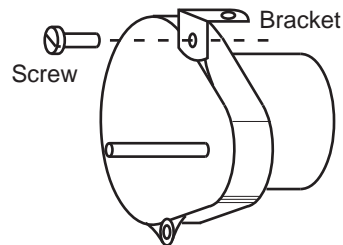

Figure 4.5: View, from the rear of the robot, of the left motor and motor mounting bracket.
- Attach (but do not tighten) the motor mounting bracket to the motor as shown in Figure 4.5. Use a 4-40 screw, washer, and nut. The right motor assembly is the mirror image of the left assembly as shown in the figure.